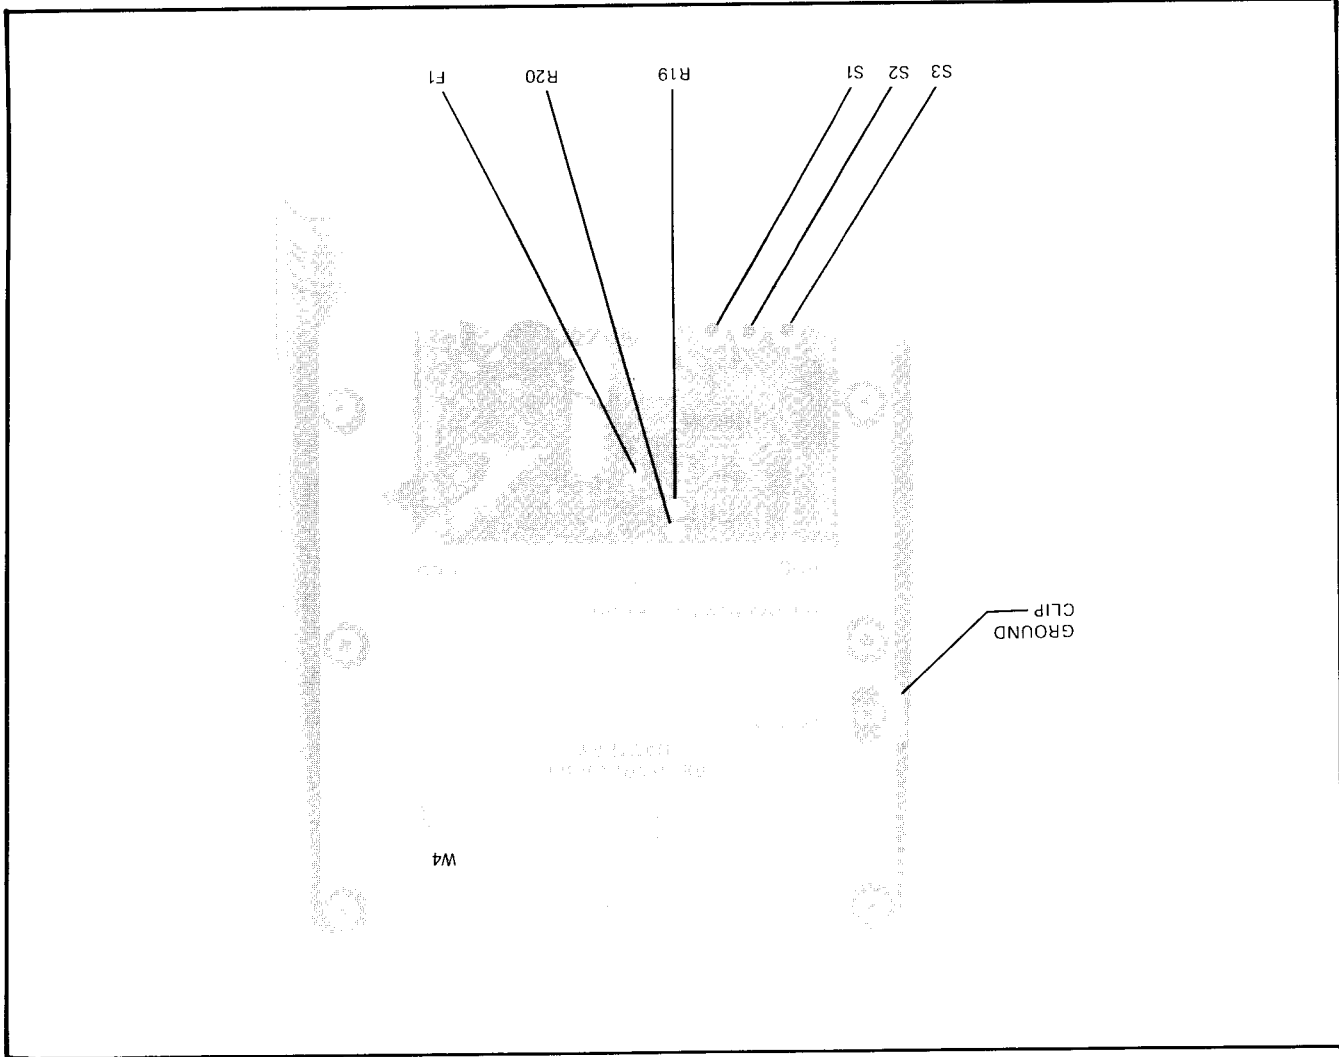

Figure 7-3. Option 002 Battery Charger Adjustment Locations
For the A6 Assembly, use Tables 7-2 and 7-5 and Figures 7-3 and 7-5.
For the A6 Assembly, use Tables 7-2 and 7-5 and Figures 7-3 and 7-5 except:
- a. Refer to Figure 7-3.